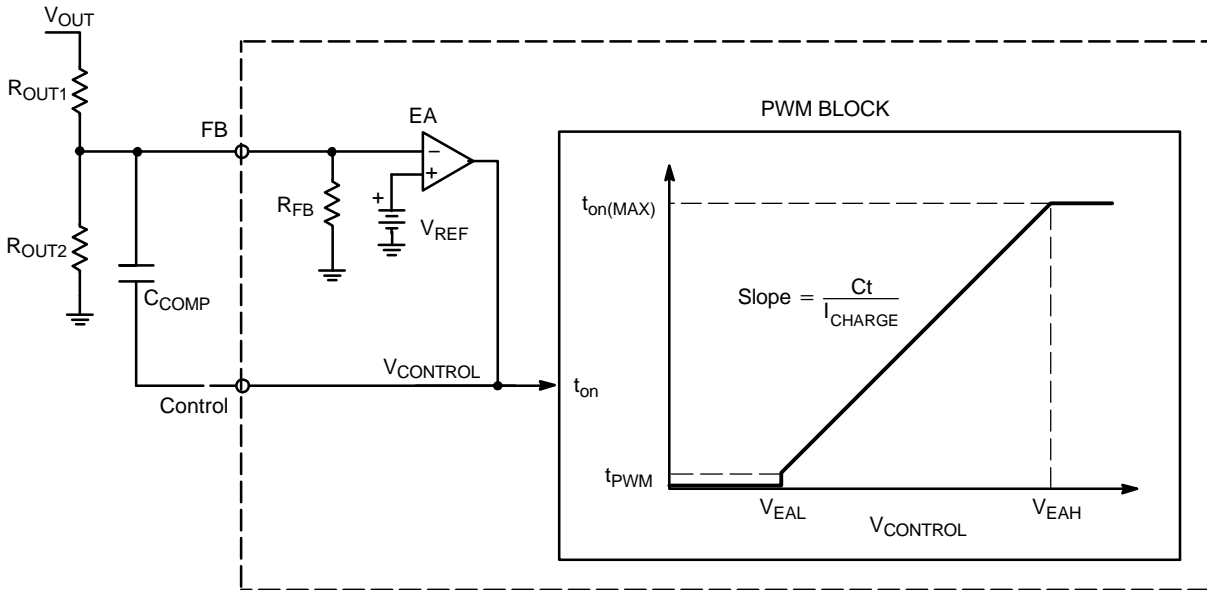

Figure 25. Error Amplifier and On Time Regulation Circuits
The NCP1607 is configured to regulate the boost output voltage based on its built in error amplifier (EA). The error amplifier’s negative terminal is pinned out to FB, the positive terminal is tied to a  $2.5\text{ V} \pm 1.6\%$  reference, and the output is pinned out to Control (Figure 25).